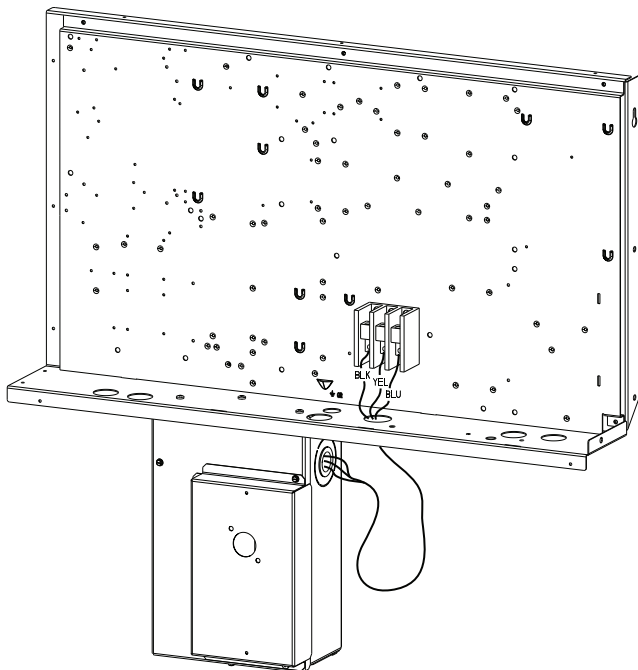

Fig. 30 — Location of Non-Fused Disconnect Enclosure
2. Remove (3) hex screws on the NFD enclosure - (2) on the face of the cover and (1) on the bottom.
4. Make sure the NFD shipped from the factory is at OFF position (the arrow on the black handle knob is at OFF). See Fig. 30.